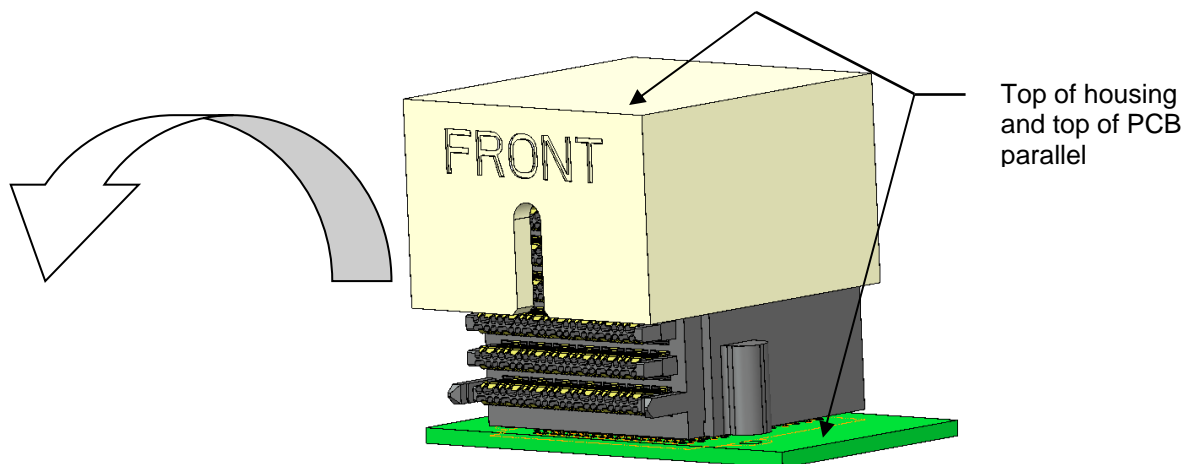

Figure 32: Connector Rotated Parallel to the Top of PCB and EONs Aligned
- Once the last row of EON tips have been inserted, rotate the connector towards the front edge of board. This will insert the rest of the EON tips into their corresponding vias. With the EON tips all started, the top surface of the insertion tool should be parallel with the top surface of PCB. Refer to figure 32.